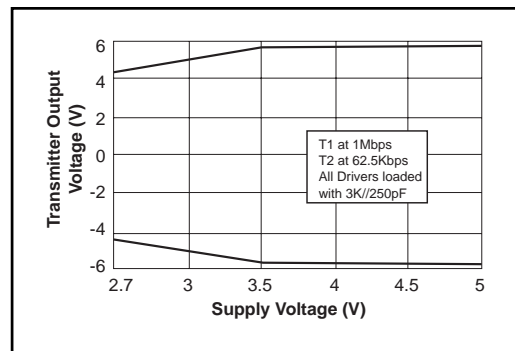

Figure 12. Transmitter Output Voltage VS. Supply Voltage for the SP3223EU
*Figure 12* shows a loopback test circuit used to test the RS-232 Drivers. *Figure 13* shows the test results where one driver was active at 235Kbps and all drivers are loaded with an RS-232 receiver in parallel with a 1000pF capacitor. RS-232 data transmission rate of 120Kbps to 1Mbps. provide compatibility with designs in personal computer peripherals and LAN applications.